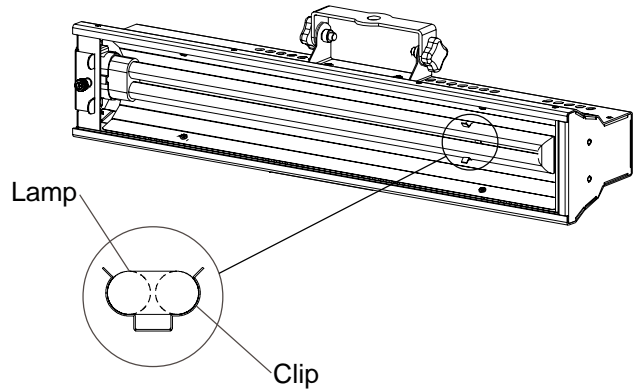

Figure 4
1. Place lamp into clip as shown in Figure 4.